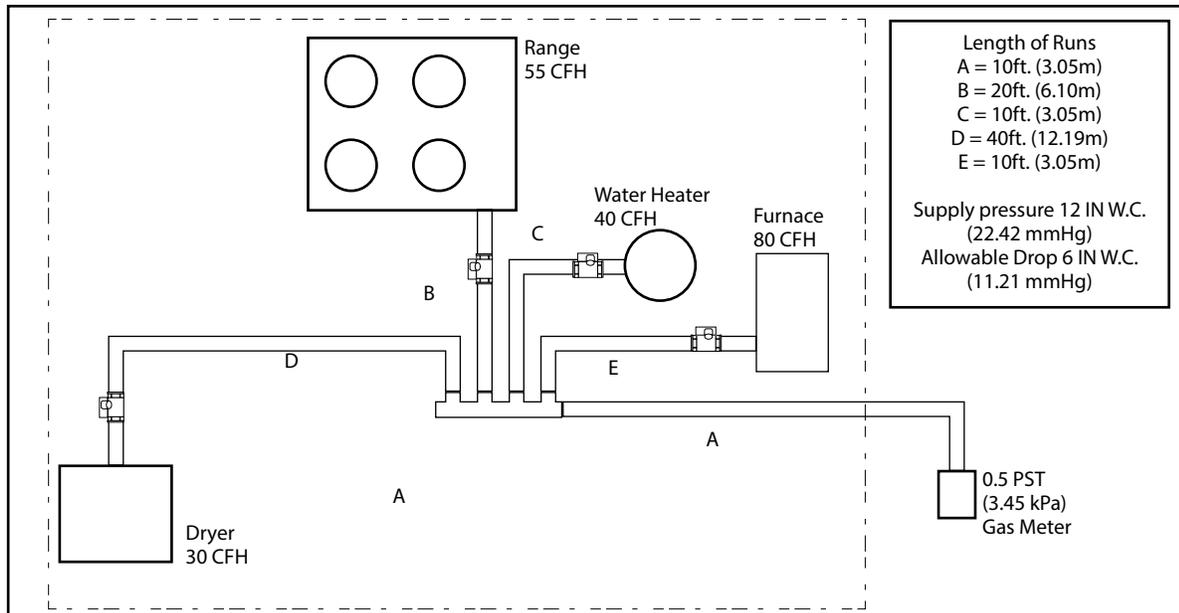

FIG. 3-3 Example 2 - Low Pressure System, 12 IN.W.C. (22.42mmHg) Parallel Arrangement
1. The system shown in FIG. 3-3 is typical of a single family installation with several appliances and medium loads. The appliances are installed apart instead of all together, and the arrangement chosen is parallel. The higher supply pressure of 12 in.W.C. (22.42mmHg) allows a higher pressure drop, 6 in.W.C. (11.21mmHg) than is available with low pressure systems.
- Select Table N-4 (Page 49) "Low Pressure 12 in.W.C. (22.42mmHg) with 6 in.W.C. (11.21mmHg drop). It shows that ½" (13) size is too small for 205 CFH at 50 ft. (15.24m), but size ¾" (19) can handle 365 CFH.